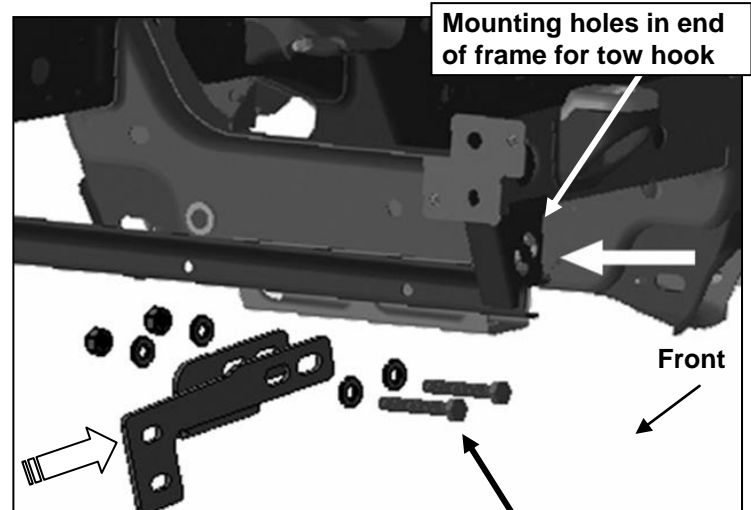

Fig 8
3. Line up the (2) holes in the Bracket with the (2) holes in the frame for the tow hook. Select (2) 12mm x 80mm Long Hex Bolts and (2) 12mm Flat Washers, **(Figure 8)**. Insert the Bolts with Washers through the Bracket and the (2) holes through the frame, **(Figure 7)**. Secure with (2) 12mm Flat Washers and (2) 12mm Nylon Lock Nuts. Do not fully tighten hardware at this time.